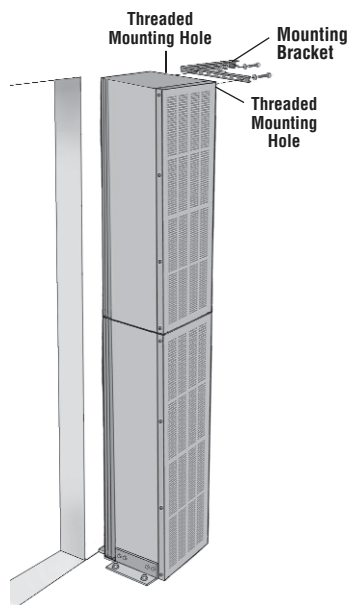
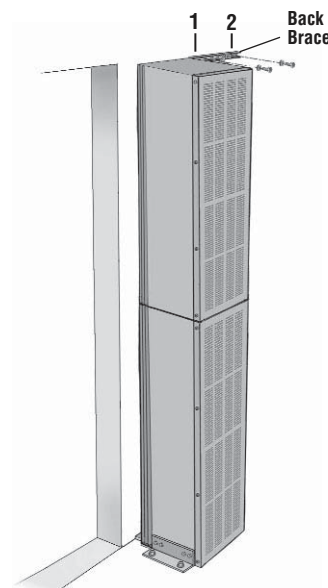

Fig. 35
Fig. 36
2. To secure the air curtain at the top, we recommend using a wall bracket. (See Fig. 35) Loosely attach the bracket to the unit by screwing bolts with washers into the two (2) threaded mounting holes at the top of the unit. With the back brace of the bracket flush to the wall, mark two (2) mounting holes 1 & 2. (See Fig. 36)
To make an adjustment to the air flow angle, you will need to reposition the outlet nozzle vane. Slightly adjust the vane to the proper angle by wrapping a rag around it to prevent scratching, and grip the vane with a pair of channel locks. (See Fig. 35). Rotate the vane in the proper direction. Repeat this process on the other side of the unit. The angle of the air flow should never exceed 20°.